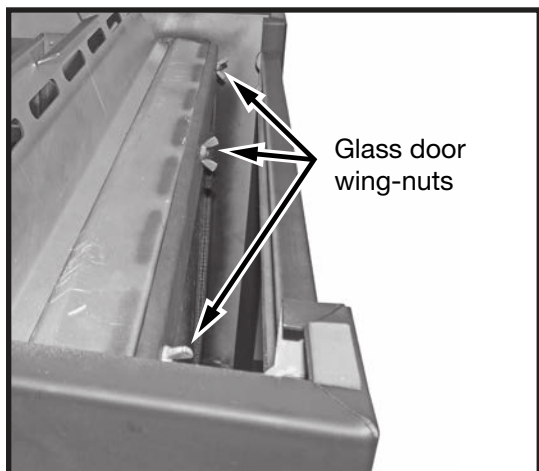
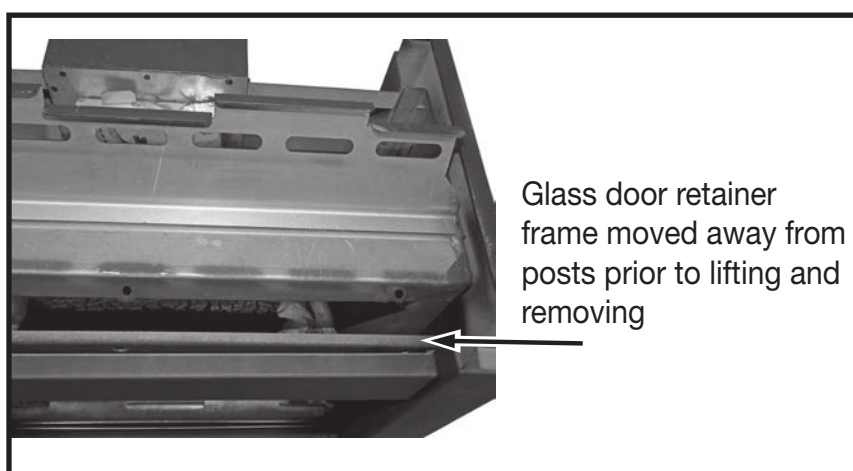

Figure 39: Glass door fasteners.
Figure 40: Trenton glass door frame.
2. Remove the wing nut bolts (Figure 39) securing the glass door retainer frame to the gas stove frame and tilt the glass door so that it can be removed (Figure 40).